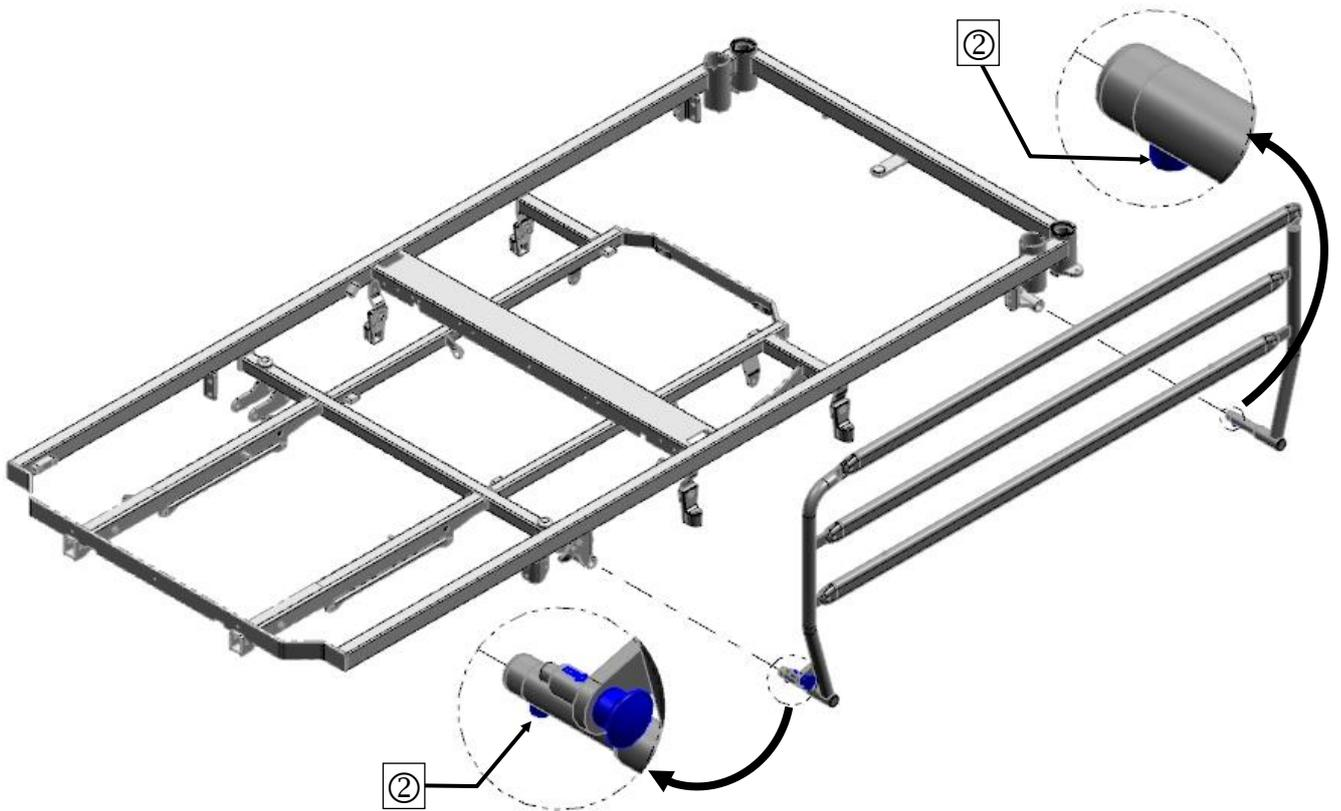

Fig. 2
3. Hold the safety side (see Fig. 2) close to the long side of the bed.
- To do so, press the spring against the safety side posts (see Fig. 2 - ②).